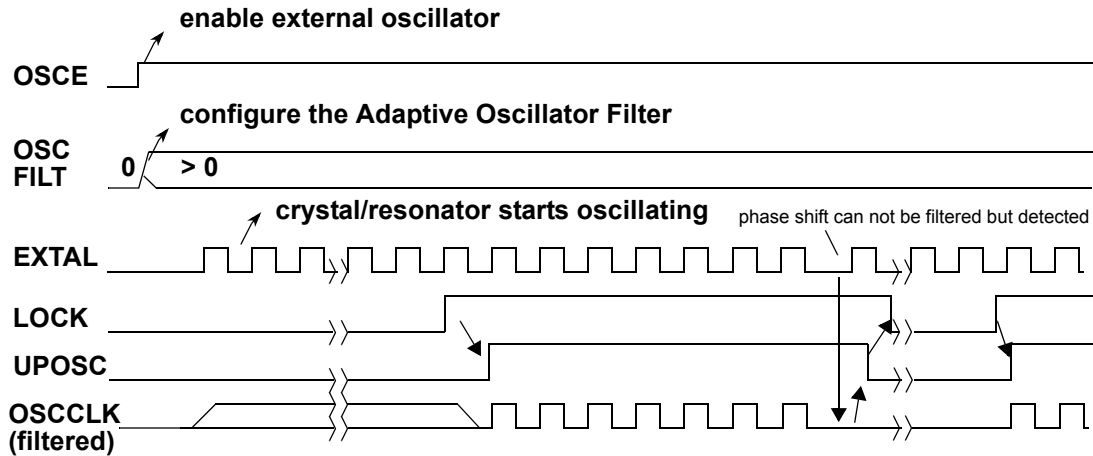

Figure 99. Critical Noise Detected by the Adaptive Oscillator Filter
2. Detect severe noise disturbance on external oscillator clock which can not be filtered and indicate the critical situation to the software by clearing the UPOSC and LOCK status bit and setting the OSCIF and LOCKIF flag. An example for the detection of critical noise is illustrated in Figure 99.